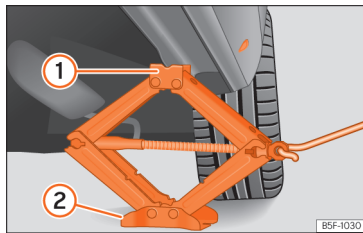

Fig. 198 Crossbar: mounting the jack on the vehicle.
- Turn the jack crank handle, located below the strut support point, to raise it until the tab ① >>> Fig. 198 is below the housing that is provided.
- Align the jack so that the tab ① “grips” onto the housing provided on the cross member and the mobile base ② is resting on the ground. The base plate ② should fall vertically with respect to the support point ①.